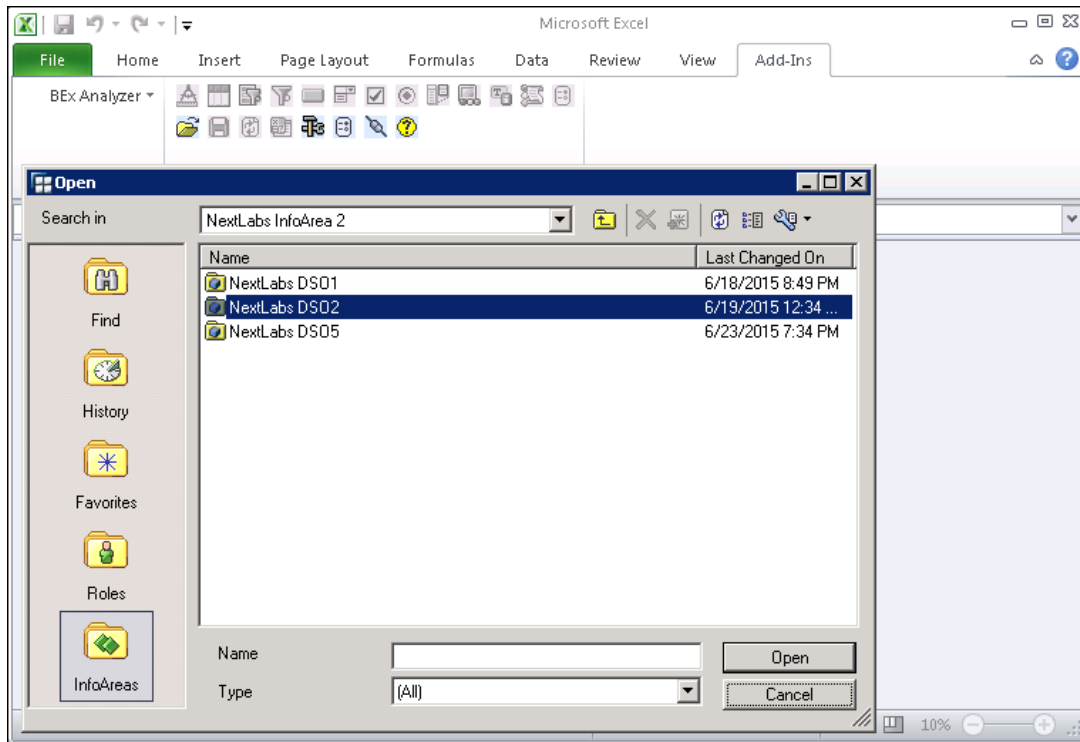

Figure 6-34: Open dialog displaying all InfoProviders in a selected InfoArea
- All InfoProviders—classified or not—are visible to all users. Figure 6-34 shows an example of InfoProviders listed in an InfoArea. NextLabs DSO2 is classified as ITAR in the Security Classification table.